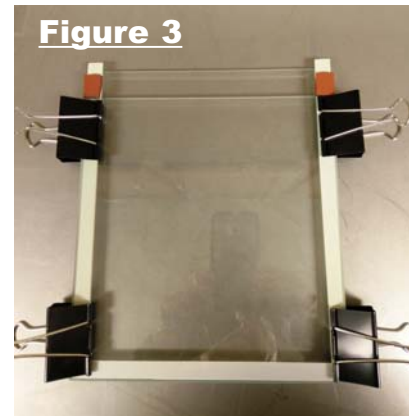

Figure 3
8. Next, remove the backing from the rubber spacer tabs included in the spacer packaging. Stick the spacer tabs to the side spacers at the top of the shorter glass plate. Placing securely against the top edge of the small glass plate, press down on the spacer tab to secure in place. See Figure 3.